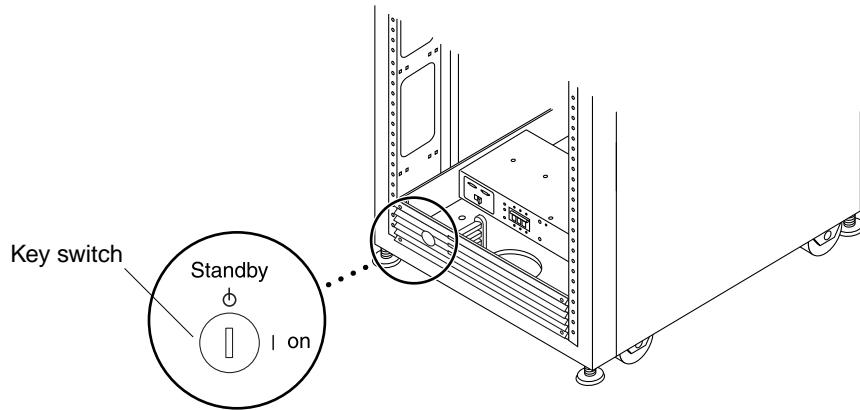

FIGURE 4-5 Location of Key Switch on Bottom Front Panel
3. Verify that the key switch located at the bottom front of the storage system is in the Standby position (FIGURE 4-5).
2. **Turn the key switch located at the front of the storage system(s) to the Standby position (FIGURE 4-5).**